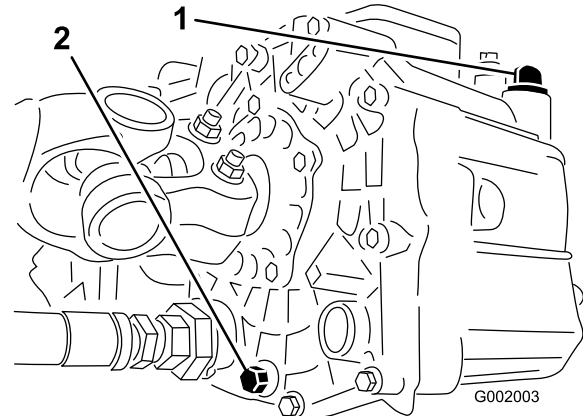

Figure 64
3. Remove the drain plug from the side of the reservoir and let the hydraulic fluid flow into the drain pan (Figure 64).